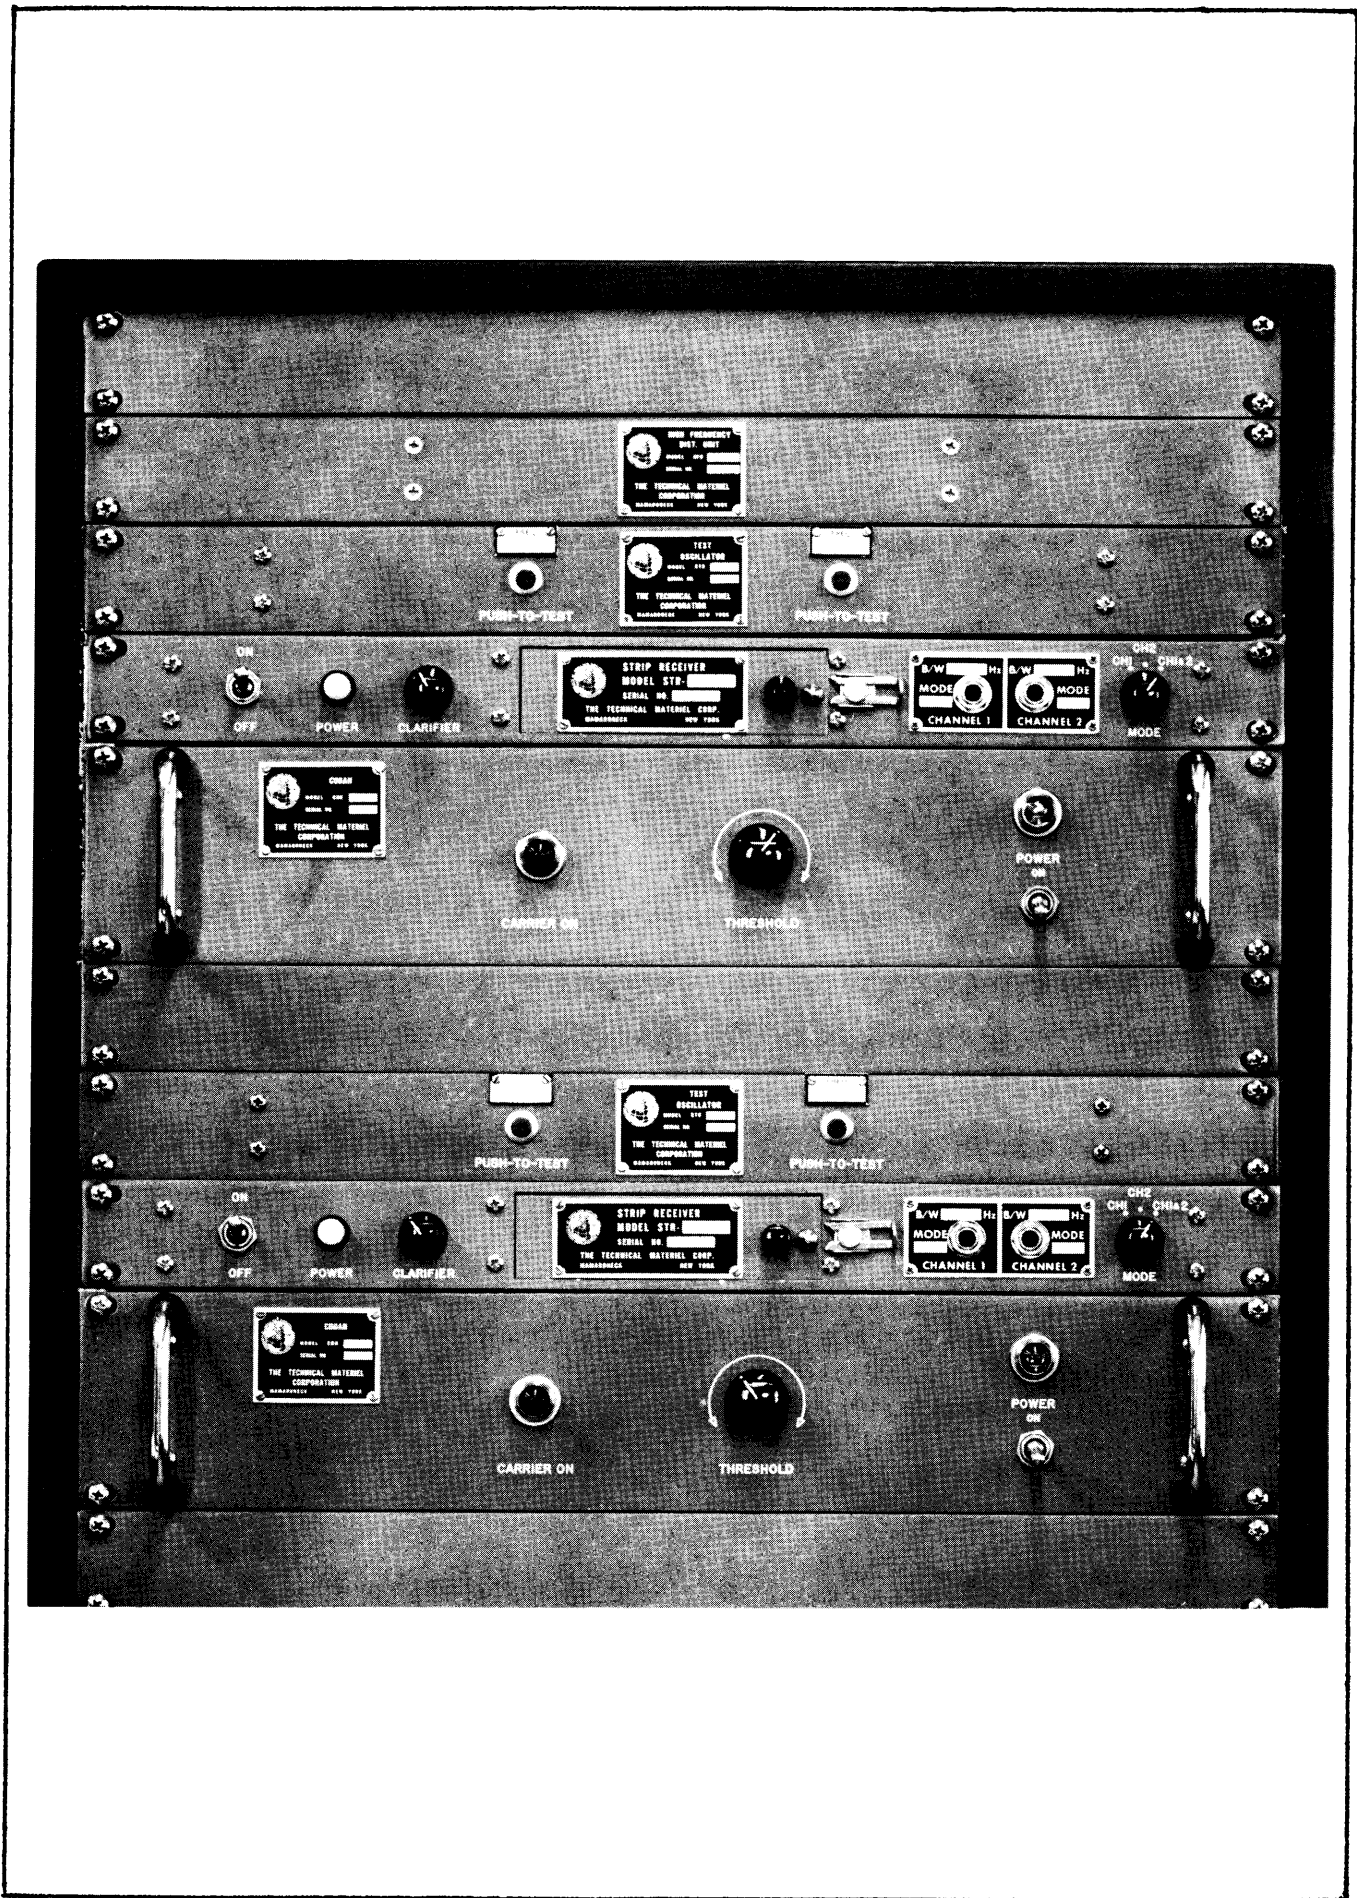

Figure 2-4. Typical Rack Installation, COR-4B()
(3) Install two plate mounting units (items 2 and 3) and case stiffeners (item 4).
(4) Install four stuffing tubes (items 5, 6 and 7).
(5) Inside case, remove nut on bolt at bottom of rack; connect free end of cable CA412-73-9.25 (other end of cable is connected to ground, item 8) to bolt. Replace and tighten nut.
(6) Feed power cable CA953-2-120.00 through its associated stuffing tube until cable extends to its full length. If required, connect plug P106 (item 9) to free end of cable.
(7) Feed cables CA1204 and CA1205 through associated stuffing tubes; connect cables to their associated equipments as shown in figures 2-4 and 2-5.
(8) Connect antenna to feedthrough insulator (item 1); connect shield if used to ground (item 8).
(9) The two Tel Line jacks and convenience outlets located on Auxiliary Power Panel APP are provided for customer convenience and should be wired in accordance with station requirements.
(10) Connect plug P106 (item 9), if used, to ac power source. If P106 is not used, connect ends of cable CA953-2-120.00 to ac power source.
(11) Using four lag bolts (item 10) bolt COR to supporting structure.